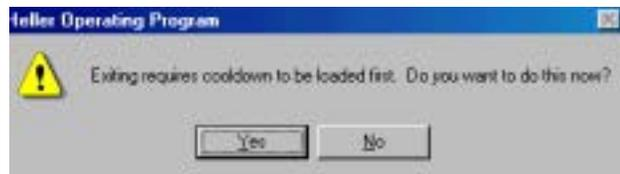

Figure 12
- d. Shutdown + Exit mode will terminate the oven process in an orderly manner turning off the power to the heaters and leaving the conveyor and blowers operating until all the temperature channels are below 95 degrees centigrade. From the main toolbar click the Shutdown + Exit icon or from the menu bar Mode then Shutdown + Exit, confirm to load cooldown **See Figure 12.** After clicking Yes cooldown will be loaded.